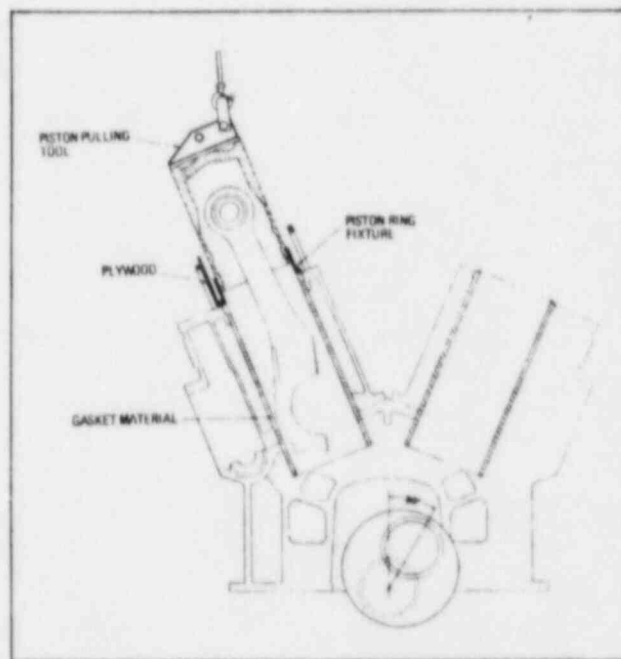

Figure 6-C-8. Piston and Rod Installation
- g. Lower rod into cylinder (see figure 6-C-8). Hold piston rings in place as they enter the piston ring fixture. Insure ring gaps are staggered around circumference of piston.
- j. Install connecting rod saddle and plate on master rod side (see figure 6-C-5) and set to hold master rod tight against crankpin.